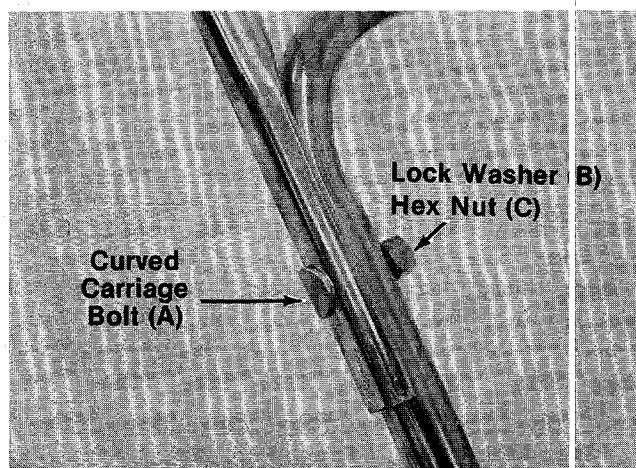

FIGURE 3.
5. Place upper handle in position over lower handle. Control housing should be on the **left** side of the handle. Secure upper handle with two curved head carriage bolts (A), lock washers (B) and hex nuts (C). See figure 3.